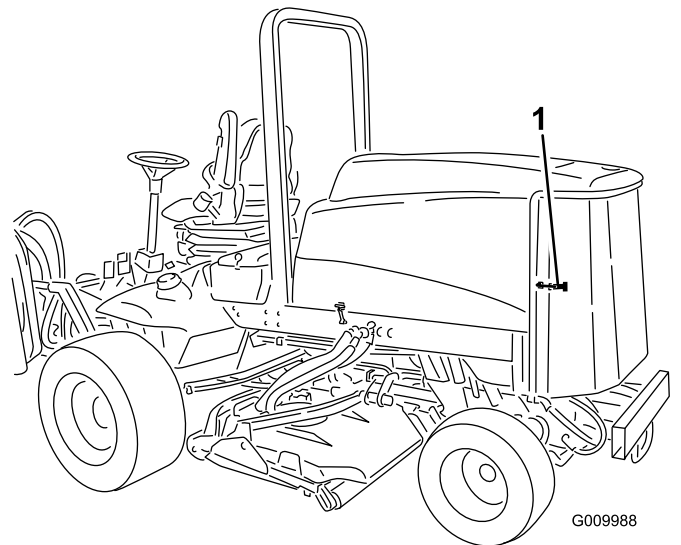

Figure 62
1. Unlatch and swing open the rear screen (Figure 62).